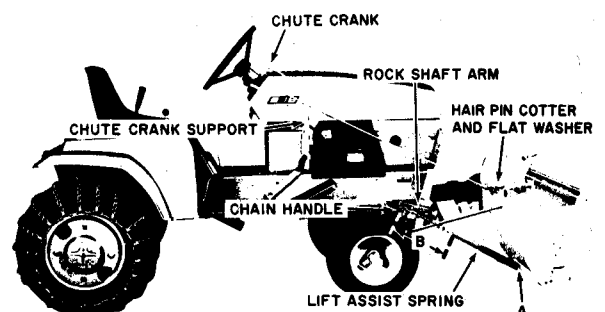

FIGURE 5
9. Install the lift assist spring, Figure 5, by attaching open end of spring to auger housing as shown at A, Figure 5. Raise sno-thro. Grasp chain handle firmly and apply spring tension by pulling the handle rearward and engaging chain links in the front rock shaft arms as shown.
Tighten spring on right hand side of tractor until Distance B, Figure 5, is equal on both sides of tractor.
10. Install chute crank through chute crank support as shown in Figure 5. Secure to the worm control pivot block with a flat washer and hairpin cotter.